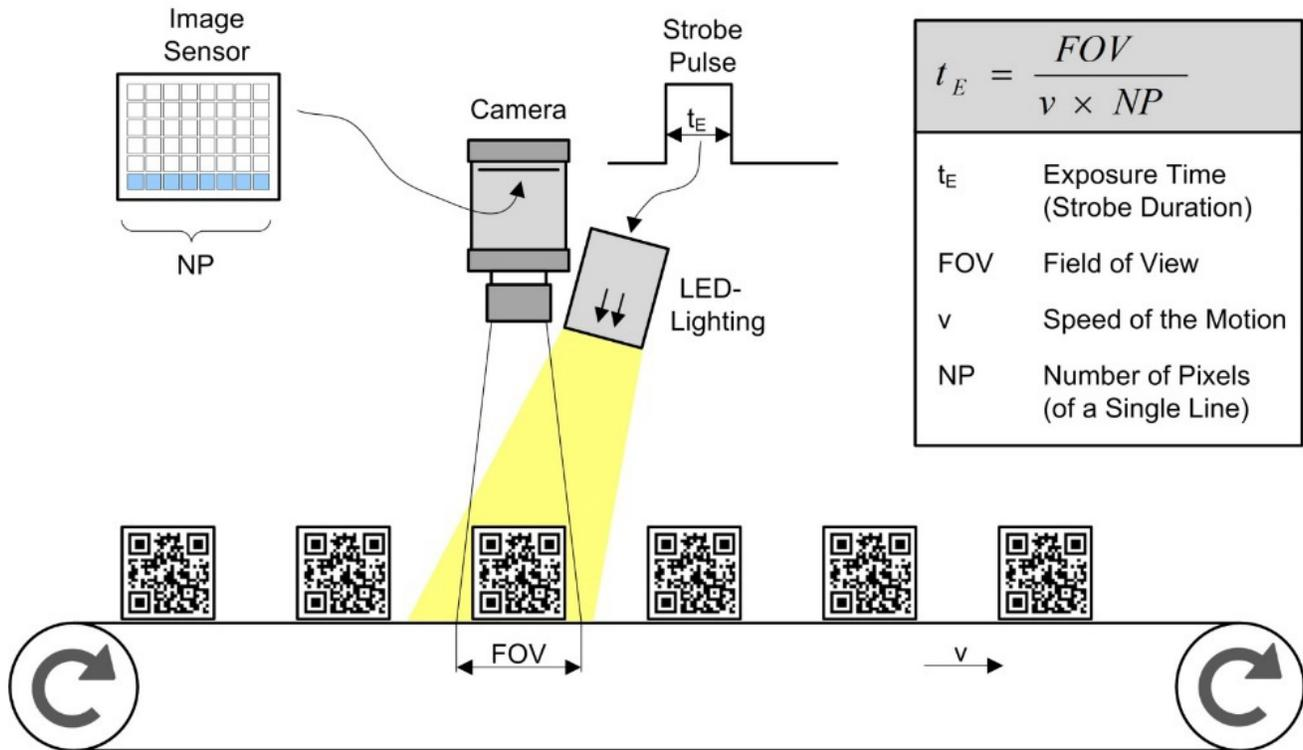

Figure 1. Typical Setup for a Machine Vision System: Short Strobe Pulses Freeze the Motion of the Objects on the Conveyor Belt
where t_E is the necessary exposure time to achieve one pixel of blur for a given size of the field of view (FOV) and number of pixels (NP). FOV and NP are both in the direction of motion of the object's speed of motion (v), see Figure 1.